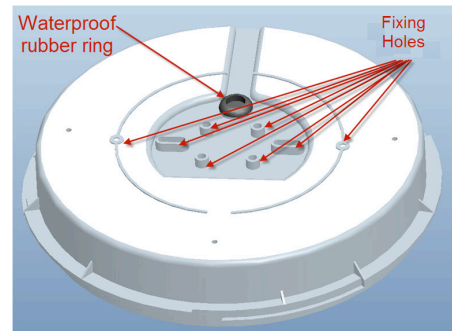

Fig3
- Drill 4 of eight fixing holes on the back of the base (see Fig 3).